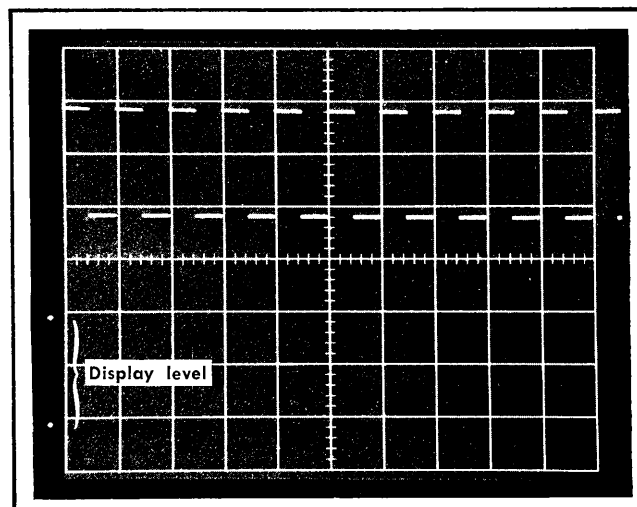

Fig. 2-3. Use of the LOCATE button for positioning the display level while the sweep is held off.
4. Press the LOCATE button and position the two dots to the lower screen (see Fig. 2-3).